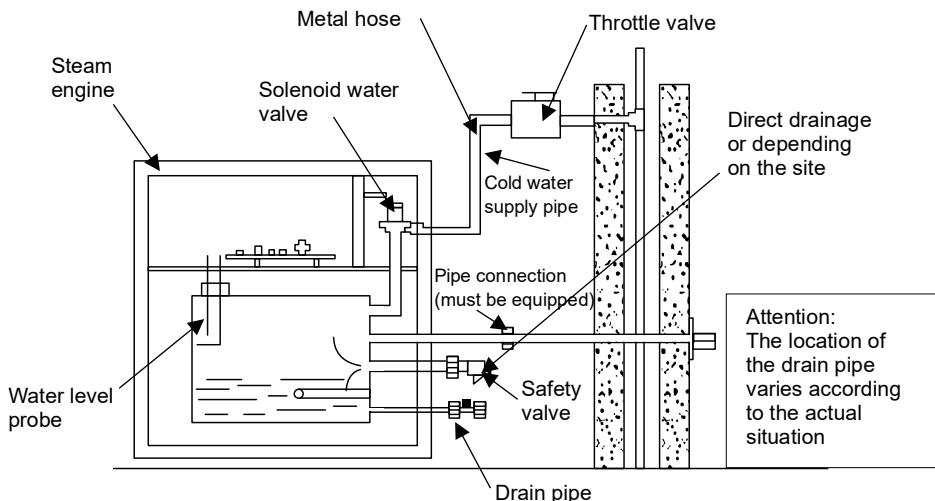

Figure 2
1. Water inlet pipe - The water inlet pipe is introduced with the existing pipe, and a DN15 metal hose is connected to the water inlet of the machine and the valve of the water supply pipe respectively (please refer to Figure 2).